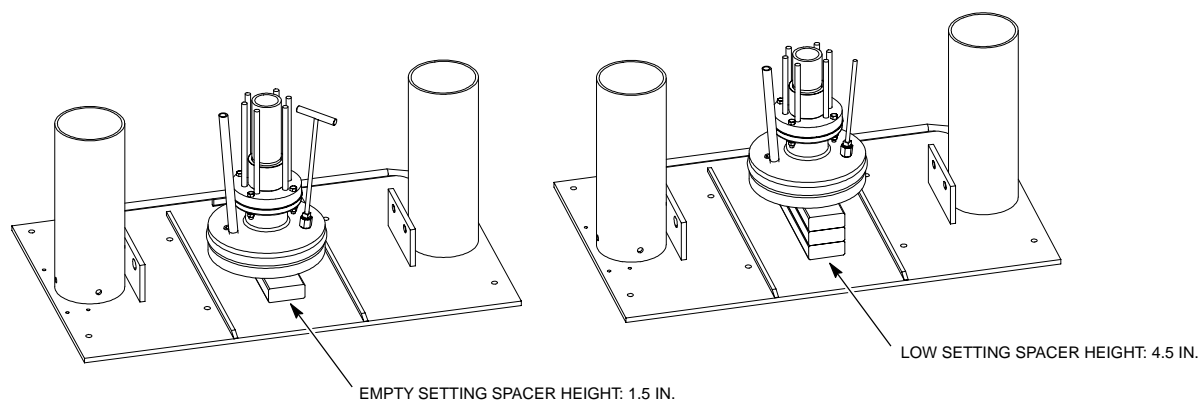

Figure 4 Spacer Height for Factory Settings
2. Set spacers onto the base surface of the frame as shown in Figure 4. Using the Rhino SD2/XD2 bulk unloader elevator control valve, lower the follower plate onto the spacers.
3. Loosen the screws (3) securing the adjustment plate (4). Move the adjustment plate until the applicable proximity sensor LED (5) illuminates. Tighten the screws (3) securely.
7. If removed, install the hold-down shoes (1) onto the frame (2).
NOTE: See Figure 4. Have spacers of the proper height on hand before performing this procedure.